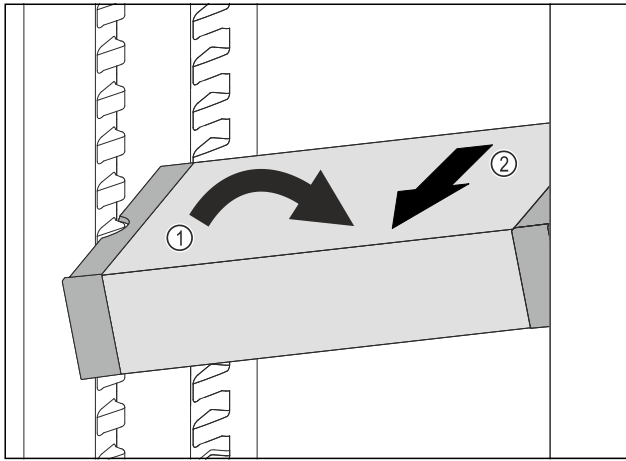

Fig. 91
- ▶ Set VarioSafe in refrigerator compartment at an angle. Fig. 91 (1)
- ▶ Take VarioSafe out to the front. Fig. 91 (2)